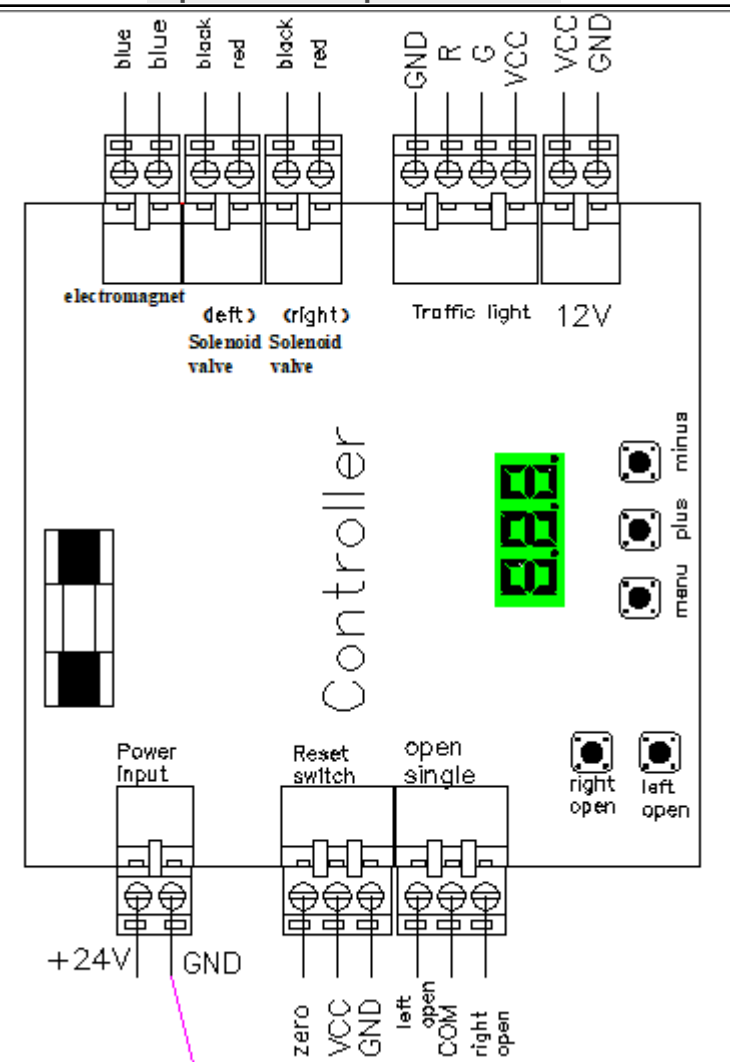

Fig. 7 Wiring Connection Between Devices
- C) Communication cable: connect the two ends directly, one-to-one (see wiring diagram Fig. 7 or Appendix B). Set the direction by configuring master or slave.